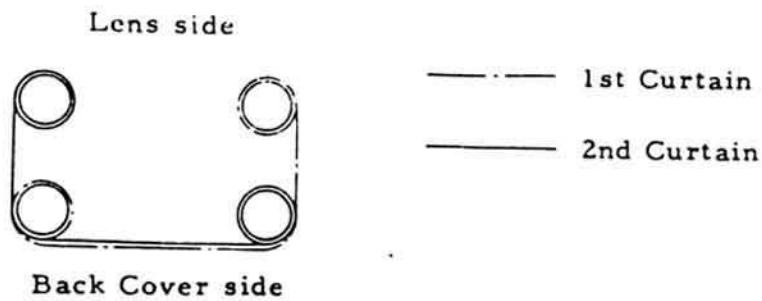

Fig. 5
- 1) Mount the Curtain as shown in Fig. 5.